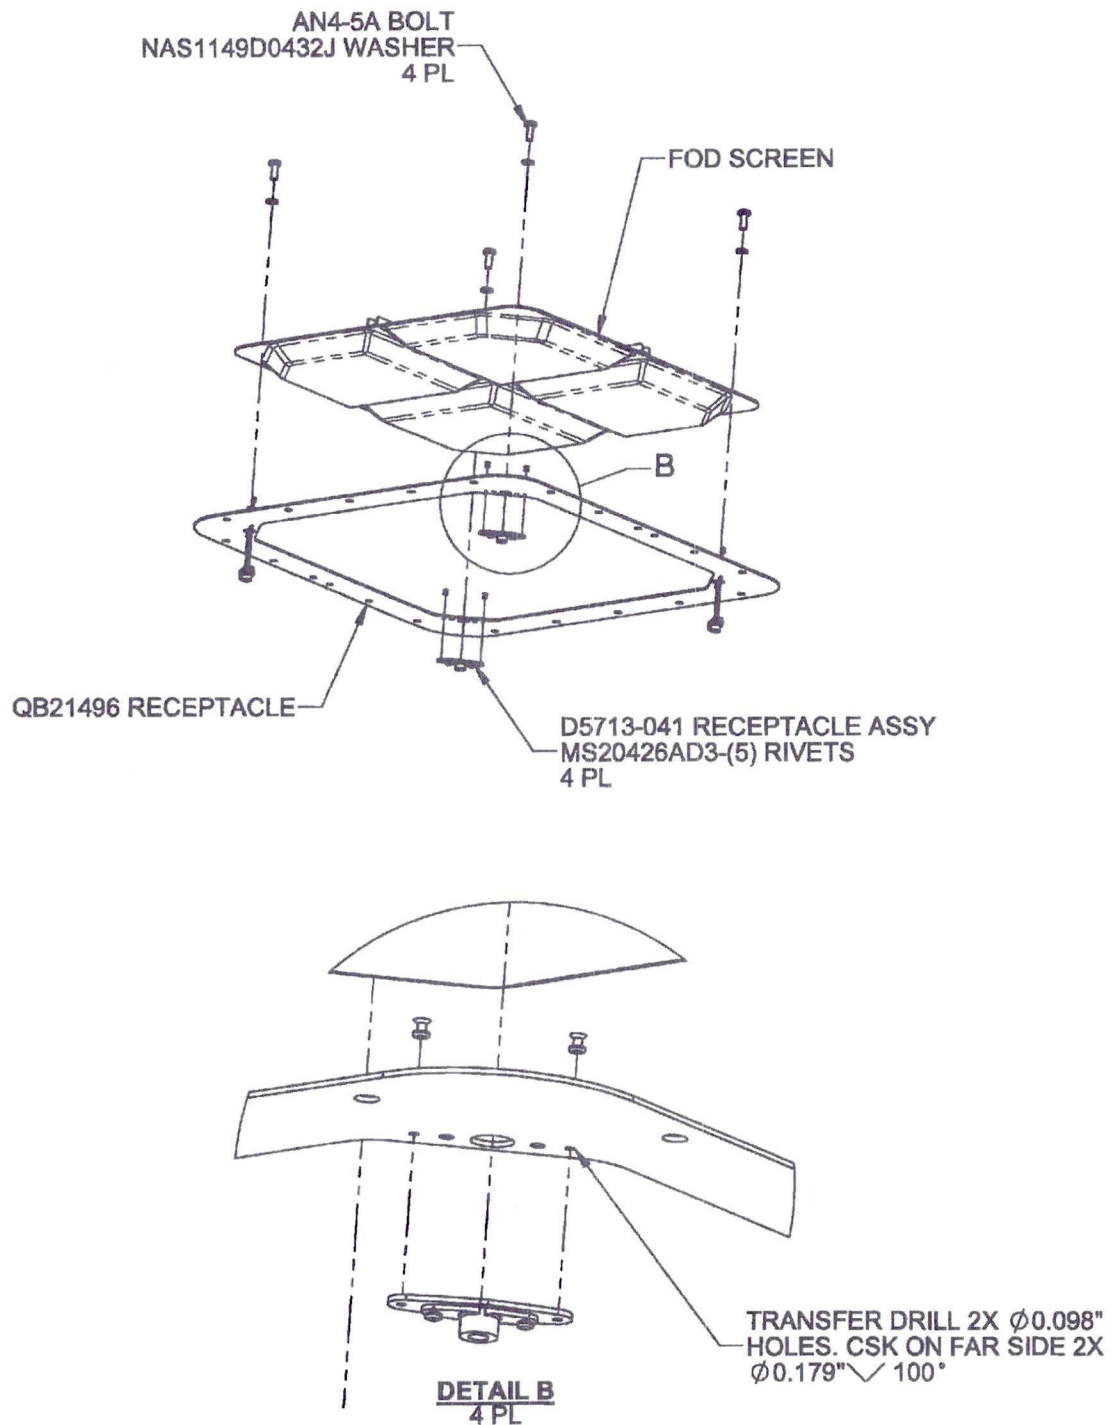

Figure 2 - DSI 9815-011 Replacement Receptacle Kit
- 2.1.5 Position the qty(4) D5713-041 Receptacle Assy in the location shown in Figure 2. Transfer drill 2x $\varnothing 0.098$ " holes with CSK $\varnothing 0.179$ " $\angle 100^\circ$ on the top side from the D5713-041 Receptacle Assy to the QB21496 Receptacle. Touch up holes with Alodine 1200 per MIL-C-5541.
- 2.1.7 Install qty(4) D5713-041 Receptacle Assy with qty(2) MS20426AD3-(5) Rivets per Figure 2.
- 2.1.9 Reinstall the FOD screen on the QB21496 Receptacle using qty(4) AN4-5A bolts and qty(4) NAS1149D0432J Washers per Figure 2. Torque bolts to 50-70 in-lb (5.6-7.9 N-m).
2.3.2 Install the FOD Screen with qty(4) AN4-5A bolts and qty(4) NAS1149D0432J Washers per Figure 2.